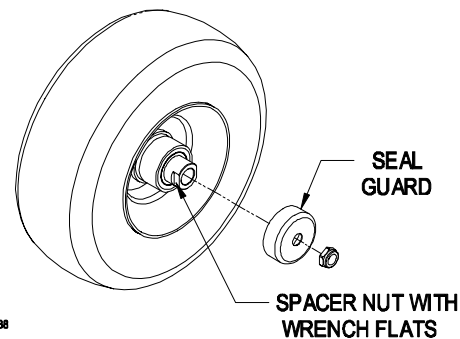

FIGURE 3
4.1.14 Lubricate the pivot bushings (locations shown in Figure 3):